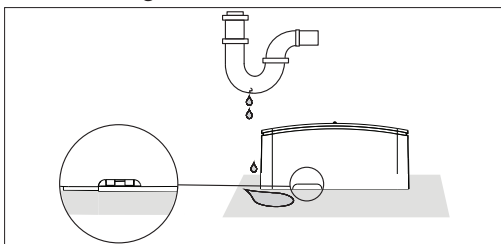

Figure 4.1: Water Detector orientation
3. Place the detector horizontally on the floor as shown in Figure 4.1.
5. Place the detector on the horizontal surface of the area to monitor for water. Refer to *Figure 4.1*.